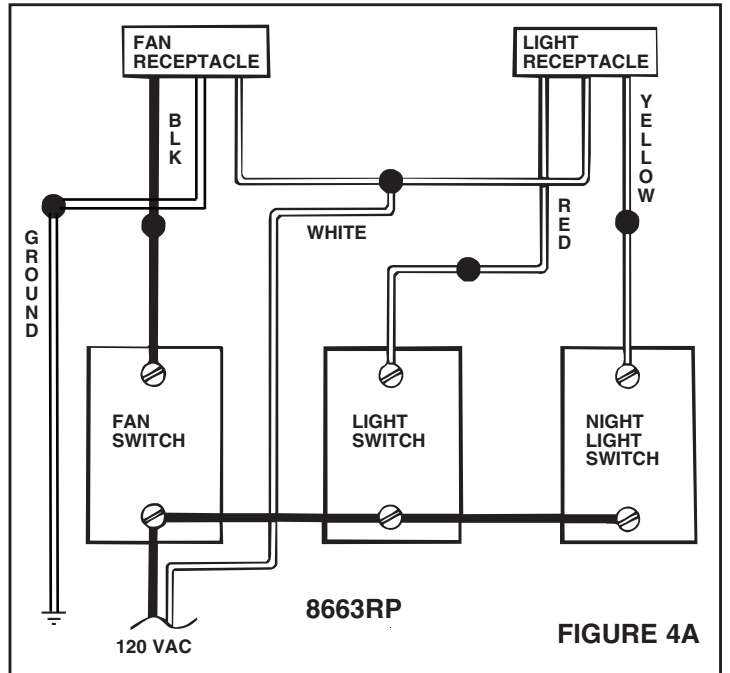

FIGURE 4A
4. Refer to Figure 4A. (For 8663RP)